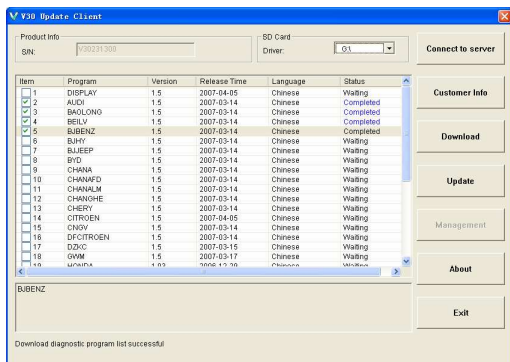

Fig.2-9 Software installation interface
- (1) Take out the SD card from V30 main unit;
- (2) Put the SD card into SD Card reader;
- (3) Connect the Card-Reader to PC USB port;
- (4) Select the SD card driver on the top-right side of software installation interface as shown in Fig.2-9;
- (5) Click on the button [Update], the selected programs which have already been downloaded to PC will be installed to SD card automatically.